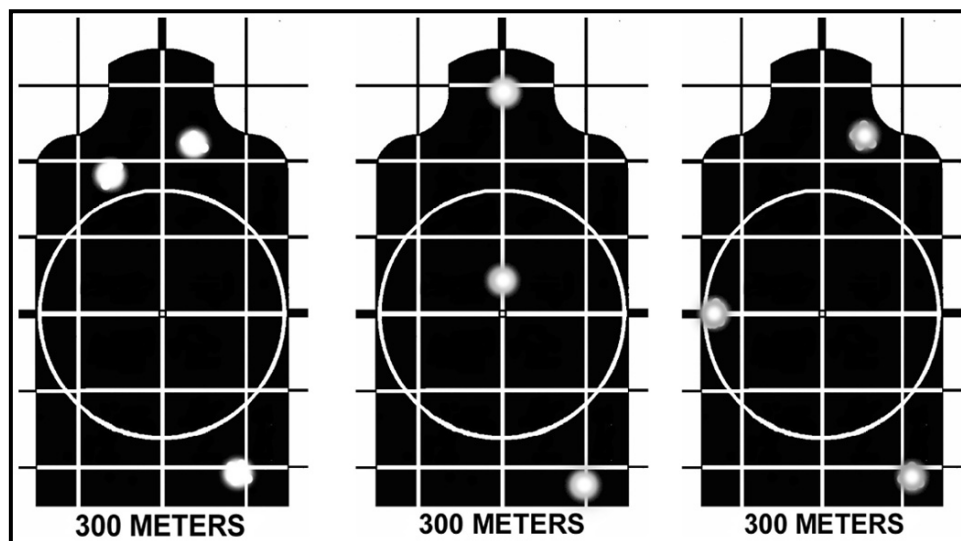

Figure 5-9. Shot groups indicate major shooting error.
(5) **6-Centimeter or Larger Shot Groups.** The targets shown in Figure 5-9 represent unacceptable firing performance. A better firing performance should be expected, and the instructor-trainer should ensure the soldier is properly applying the four marksmanship fundamentals. He should explain that group size is not due to weapon or ammunition performance. The placement of shots in these groups (more than 6 centimeters apart on the target) reflects major shooting error. Any of these three shot groups could have been a change in position, sight picture, breathing; or trigger squeeze, or the firer may be anticipating the shot. Firers with these shot groups should receive extensive dry-fire training to help correct firing problems. (See Appendix A for more information.)